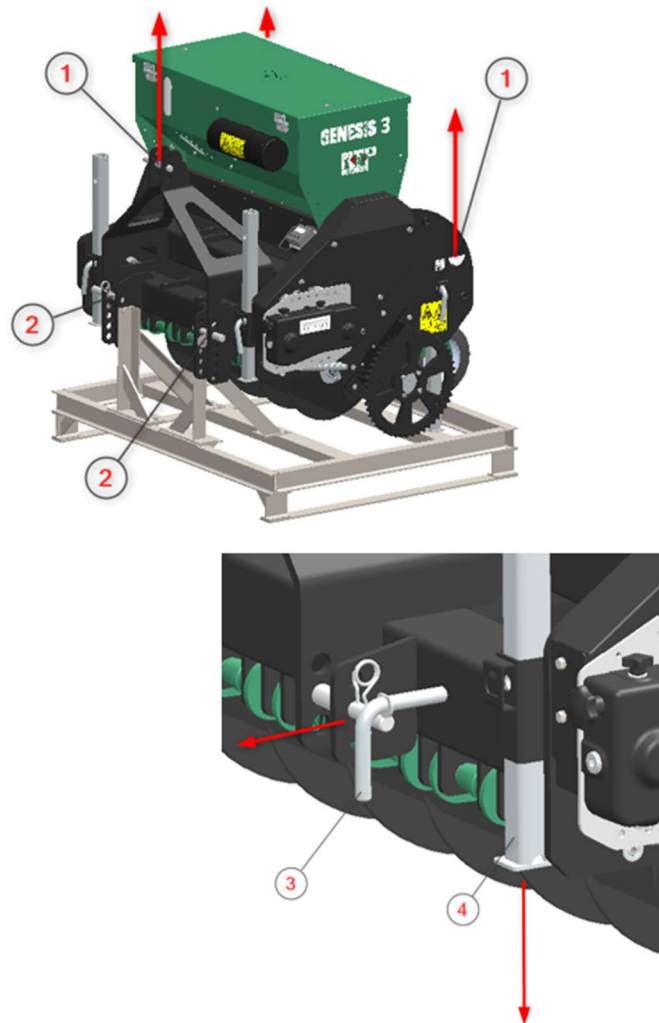

Fig. 2
The machine should be prepared for use as follows: (Fig.2)
1. Remove the 3-point pins (1) from the machine.
2. Carefully drive the tractor backwards until the lifting arms (2) can be attached to the machine.
3. Attach the lifting arms (2) to the machine using the 3-point pins. Lock the pins using the clips.
4. Set the stabilizer of the lifting arms (2) to 4" (100mm) lateral stroke.
5. Mount the top link (3) onto the tractor and attach it to the machine. Adjust the length of the top link until the machine is connected horizontal.
7. Slide the support legs (4) upwards and secure them. (Fig.2)
2. Lower the support legs (4) and secure them with the locking pins.(Fig.2)
4. Disconnect the top link (3).
5. Disconnect the lifting arms (2).